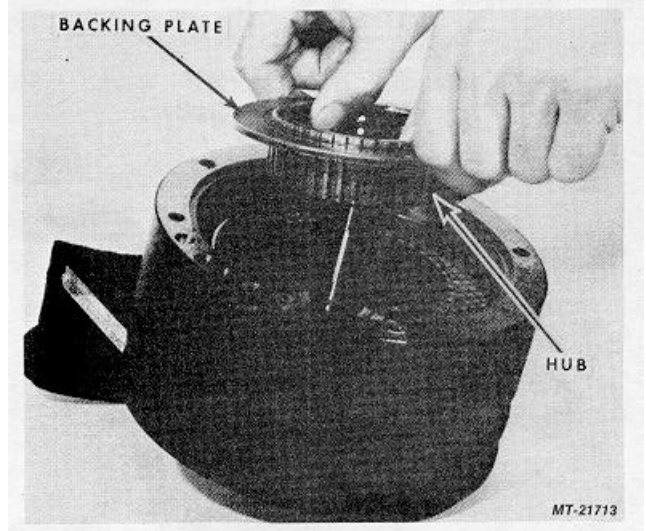

Fig. 21
18. Remove Hub with Backing Plate, Fig. 21.